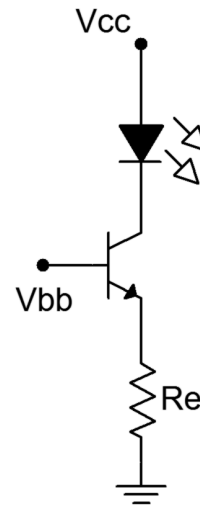

Figure 3
7. Consider the non-saturating current source of Figure 3 using $V_{cc} = 10$ volts, $V_{bb} = 5$ volts and $R_e = 470\text{ }\Omega$. Using a typical beta of 150, calculate the base and collector currents, and the collector-emitter voltage and record them in the first row of Table 3 (theory).
8. Build the non-saturating current source of Figure 3 using $V_{cc} = 10$ volts, $V_{bb} = 5$ volts and $R_e = 470\text{ }\Omega$. Measure and record the base and collector currents, and record the collector-emitter voltage in the first row of Table 3 (experimental). Also compute and record the deviations between theory and experimental results.
12. As seen in steps 7 through 11, the LED current of Figure 3 is a function of the base supply and the emitter resistor. Determine a new value for the emitter resistance that will yield an LED current of 15 mA. Record this value in Table 4. Obtain a new resistor close in value to the calculated result and swap it into the circuit. Measure the resulting LED current and record in Table 4.
14. Simulate the circuit of Figure 3 and record the currents and voltage in Table 6.
3. The circuit of Figure 3 is stated to be a non-saturating current source. How do the data of Table 3 confirm this statement?